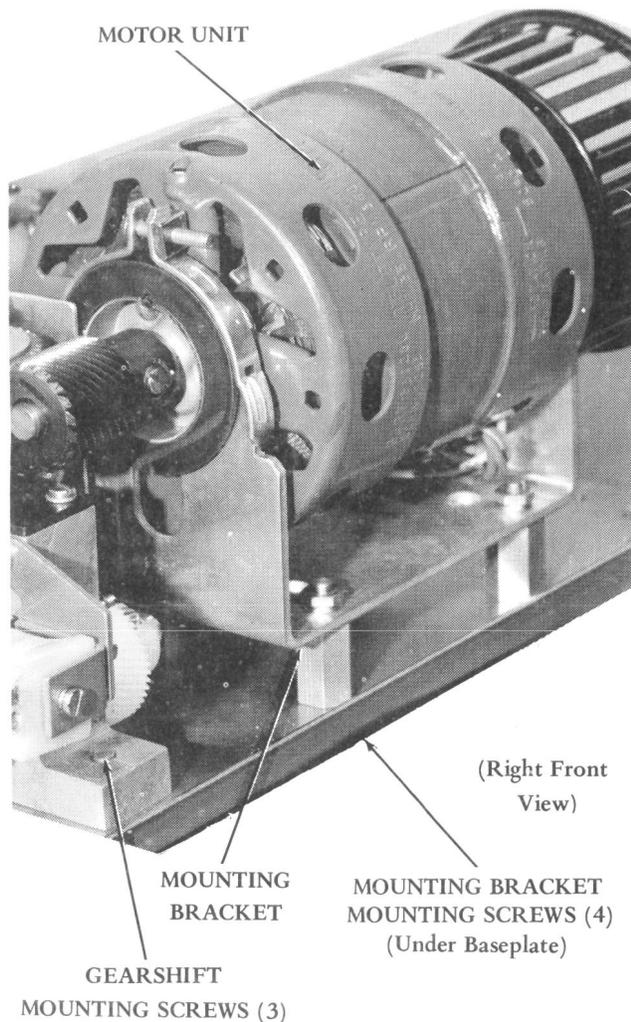

Figure 9 - Motor Unit
- (1) Remove red lead from terminal 2 and blue lead from terminal 3 of the motor start relay. Remove yellow lead from terminal 5 of the solid state switch and green lead from baseplate by removing ground screw.
- (2) Remove four each motor unit mounting bracket mounting screws (under baseplate) (TP151723), lockwashers (TP2669), and flat washers (TP3438) (Figure 9).